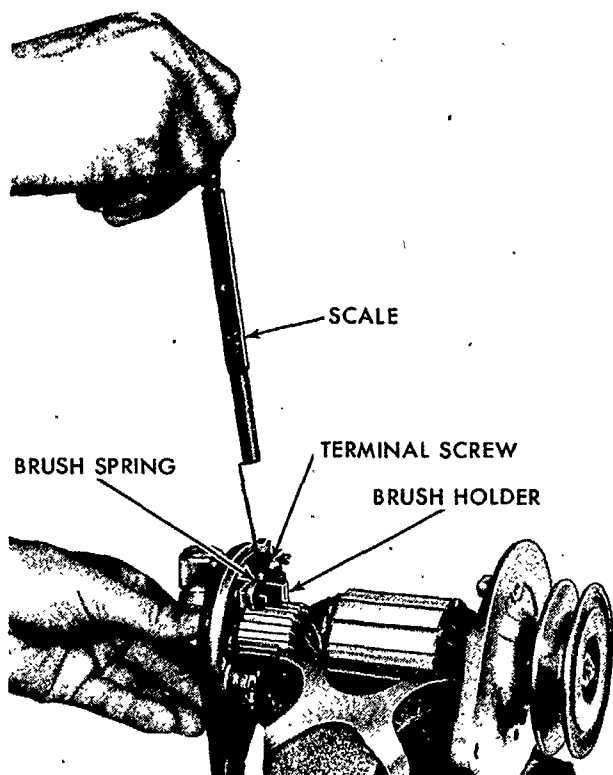

Figure 15
3. Check brush spring tension with reference to Figures 15 and 16. The end plate must be installed so the brushes are in position on the commutator. Pull the spring scale radially. On the 22-amp. generator, position the scale finger under the brush arm, as close to the brush as possible. Install new springs if the tension is less than specified on page 70.
1. Remove the terminal screws and lock washers, Figures 15 and 16.